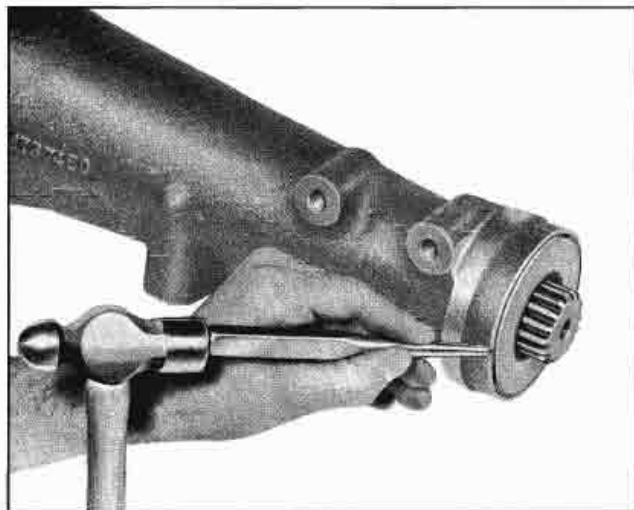

Fig. 7-43 Removing Extension Oil Seal
1. Using punch or other suitable tool (Fig. 7-43), loosen oil seal from rear extension and remove.